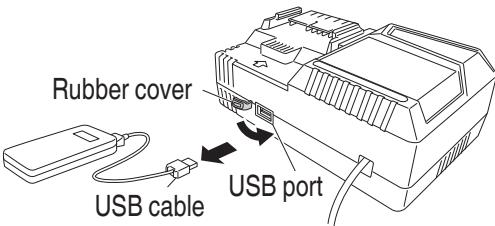

Fig. 14
- (3) When charging is completed
- Unplug the power cord from the electrical outlet. (Fig. 14)